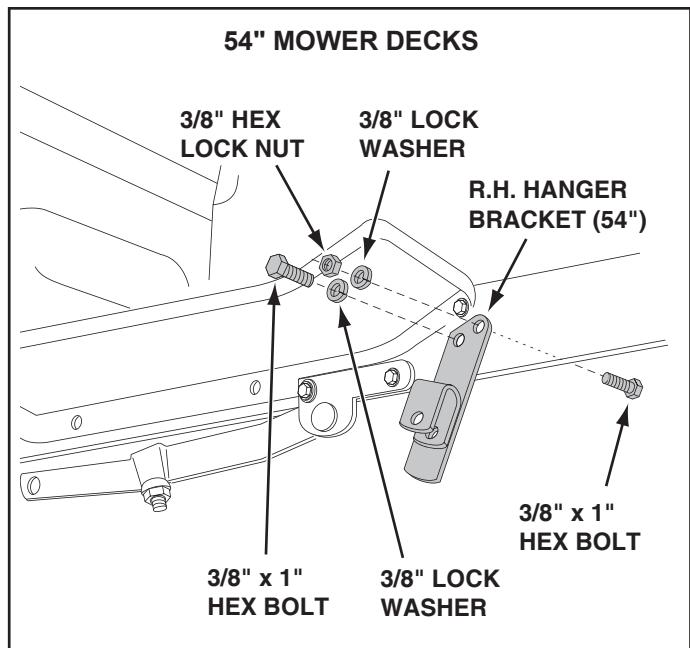

FIGURE 8
- Assemble the 54" R.H. hanger bracket to the holes where the mower stop bracket was removed on the right side of the tractor frame. Fasten with two 3/8" x 1" hex bolts, two 3/8" lock washers and one 3/8" hex lock nut. See figure 8.